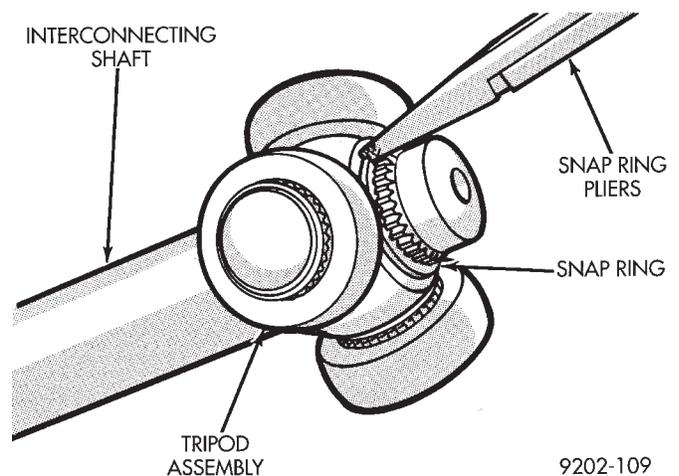

Fig. 11 Outer Snap Ring Installation
(4) Install the outer tripod assembly to intermediate shaft retaining snap ring into the snap ring groove on the intermediate shaft (Fig. 11).